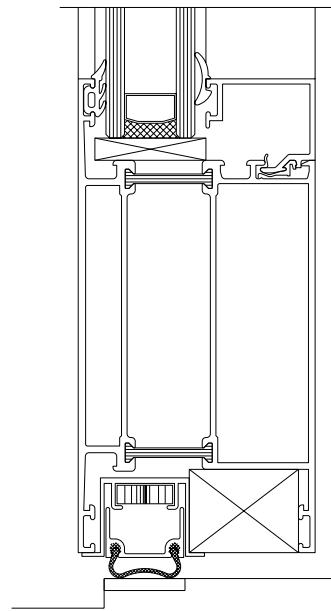

Fig. 2
2. Preparing the floor (Fig. 2):